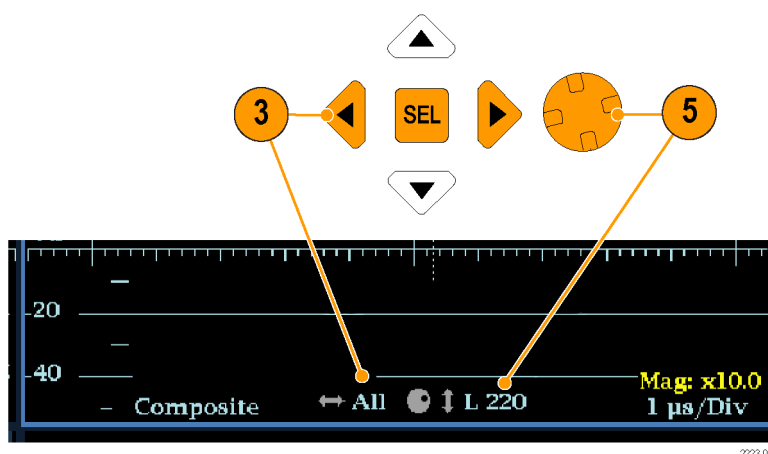

Figure 53: Navigating line selection
3. Press the left or right arrow key to select **F1** (field 1), **F2** (field 2), or **All**. See also Figure 53: Navigating line selection on page 160.